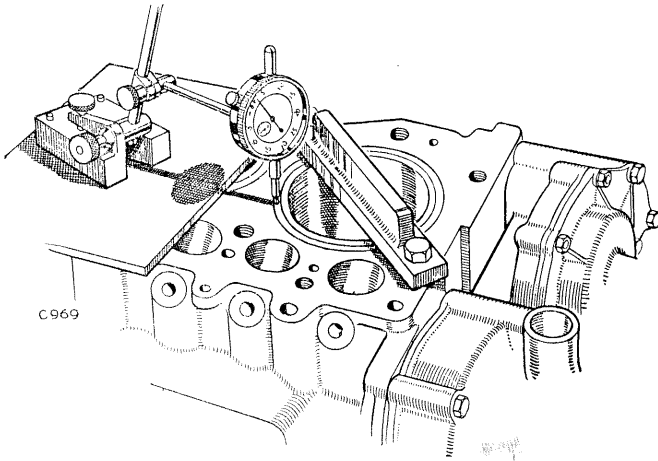

Fig. A-72—Checking cylinder liner extension
3. Clamp each liner in turn in the manner illustrated and tighten the securing bolts to 65 lb/ft (8,9 mKg) torque. Mount a dial test indicator and check that the outer edge of the cylinder liner is from .002 to .004 in. (0,050 to 0,10 mm) above the cylinder head joint face. See Fig. A-72. Adjust if necessary by removing liner and adding a suitable shim washer under the flange. Clamp and re-check liner as described above. Shim washers are available .002 in. (0,50 mm) and .004 in. (0,10 mm) thick.